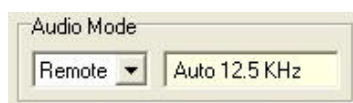

Figure 6. NI ET – Audio Mode to ‘Remote’.
- 8.3. On the Main Audio tab, ensure that the Audio Mode is set to “Remote”. If necessary, use the drop-down list to change the audio mode (see **Figure 6** below).